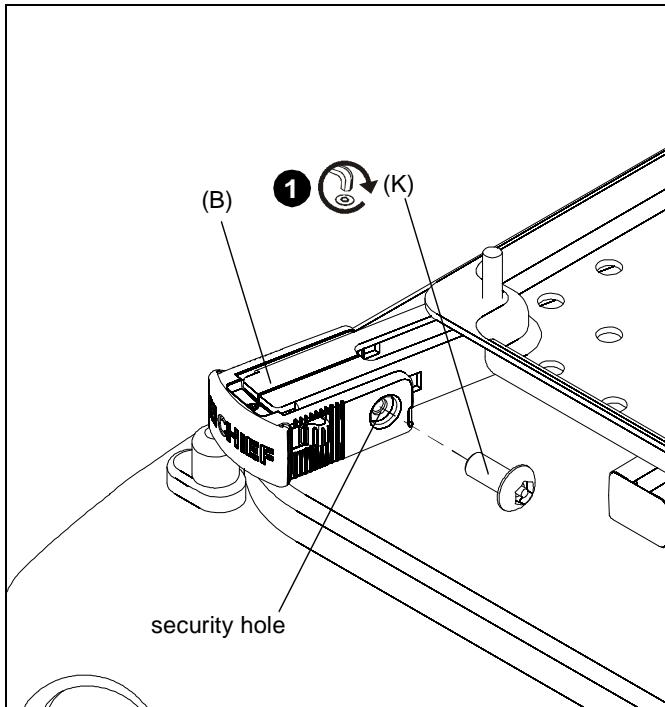

Figure 9
- Install #8-32 x 3/8" button head security screws (K) into security holes on SLBU/SLMU legs. (See Figure 9)